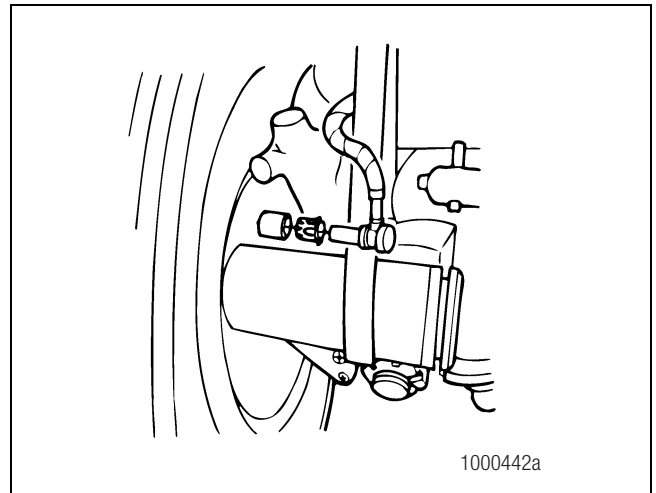

Figure 4.1
3. Remove the sensor from the steering knuckle. Use a twisting motion if necessary. Figure 4.1.